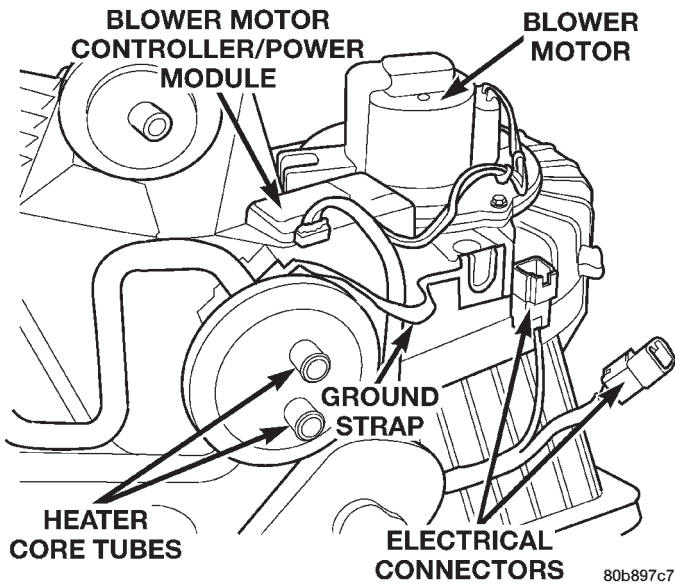

Fig. 27 Blower Motor Resistor or Controller/Power Module Remove/Install
(1) Disconnect and isolate the battery negative cable.
(2) Depress locking tab and unplug the wire harness connector from the blower motor resistor or controller (power module).
(3) Depress locking tab and unplug the resistor or controller connector from the blower motor.
(4) Remove the 2 screws that secure the blower motor resistor or controller to the heater-A/C housing.
(5) Remove the blower motor resistor or controller from the heater-A/C housing (Fig. 27).